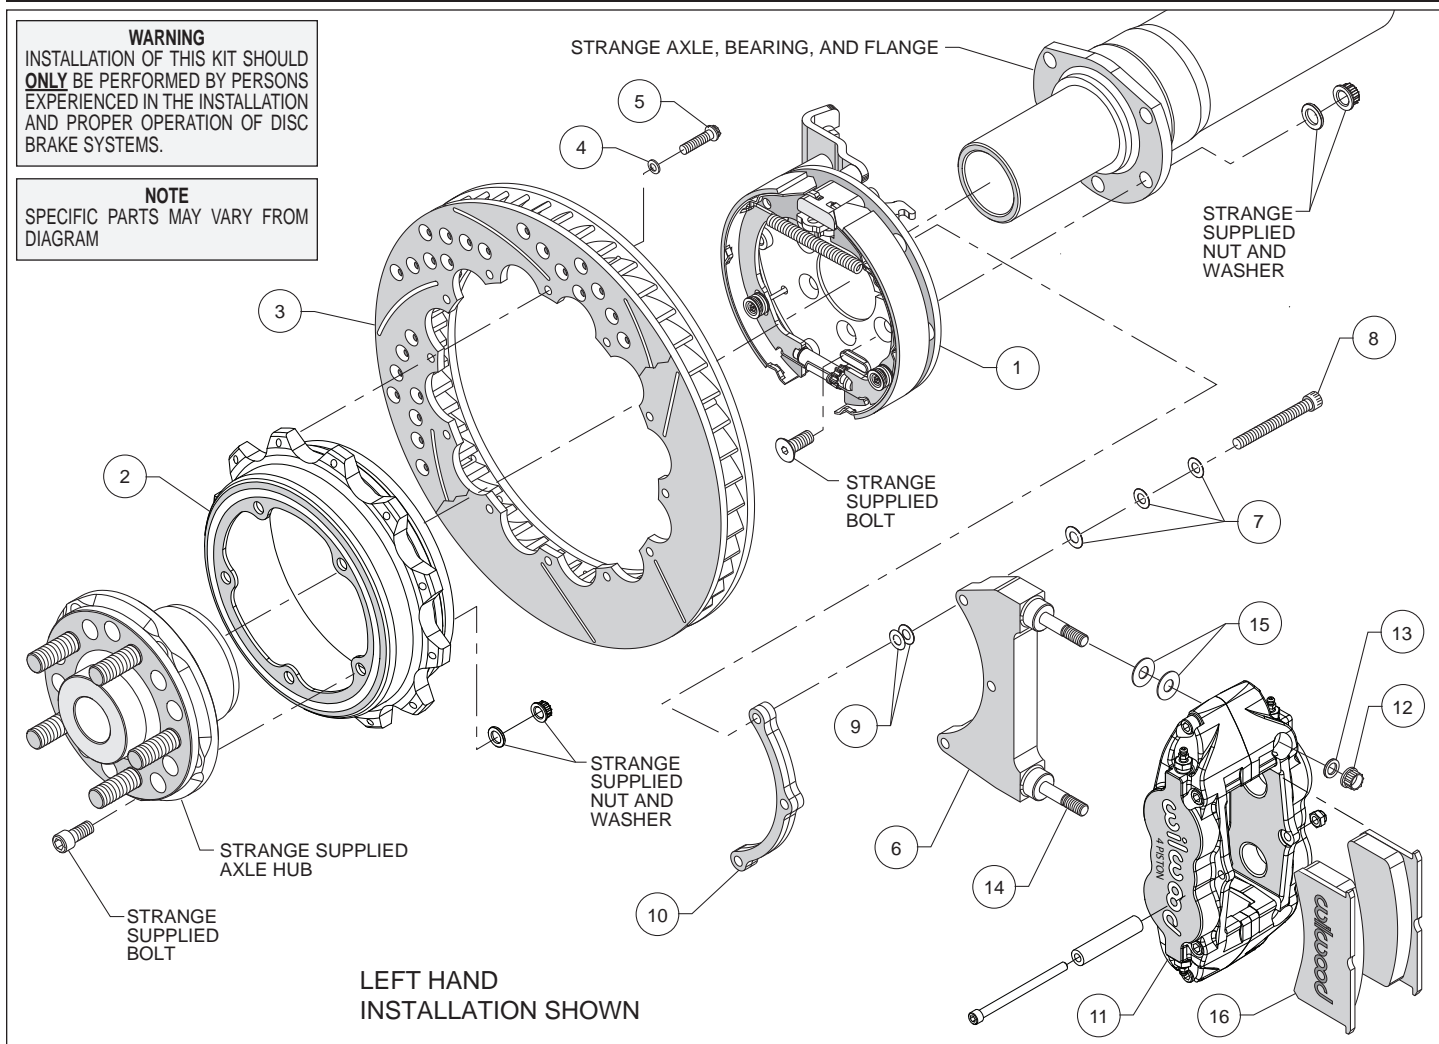

Figure 1. Typical Installation Configuration
Assembly Instructions (numbers in parenthesis refer to the parts list and Figure 1 on the preceding pages): **CAUTION:** All mounting bolts must fully engage threaded holes.
- Orient the bracket assembly (1) as shown in Figure 1 and slide it onto the axle housing flange. Ensure that the bracket assembly backing plate fits flush against the axle housing flange. Secure bracket assembly to the axle flange using bolts, washers, and lock nuts (all Strange supplied) as shown in Figure 1. Apply red *Loctite*® 271 to the bolt threads and torque to Strange specifications.
- **NOTE:** Please reference the caution statement at the beginning of the assembly instructions. The caliper mounting bracket assembly (6) should be installed first with clean, dry threads on the mounting bolts (8). Install the bracket using bolt (8), three flat washers (7), shim washer (9) and spacer (10), as shown in Figure 1. **NOTE:** End of bolt should not exceed inside face of insert. The bracket must tighten squarely against the back side of the bracket kit assembly (1). Inspect for interference from the axle flange. Use two thin shims (9) between the bracket (6) and spacer (10) during initial trial fitting. Later, after the caliper alignment has been checked, the mount bolts will be secured using red *Loctite*® 271.
- Orient the rotor (3) and the hat (2) as shown in Figure 1. Attach rotor to hat using bolts (5) and washers (4). Using an alternating sequence, apply red *Loctite*® 271 to the threads, and torque to 155 in-lbs.
- Orient the hat (2) and the axle hub (Strange supplied) as shown in Figure 1. Attach the hat to the axle hub using bolts, washers, and lock nuts (all Strange supplied) as shown in Figure 1. Apply red *Loctite*® 271 to the bolt threads and torque to Strange specifications.
- Slide the rotor/hat/hub assembly onto the axle as shown in Figure 1 and secure per Strange Engineering specifications.
- Lubricate the caliper mounting studs (14) with lightweight oil. Initially place two .035" thick shims (15) on each stud between the caliper and the bracket, as shown in Figure 1 and Photo 1. Mount the caliper (11) onto the bracket (6) using lock nuts (12) and washers (13), Figure 1. Temporarily tighten the lock nuts and view the rotor through the top opening of the caliper. The rotor should be centered in the caliper, Photo 2. If not, adjust by adding or subtracting shims (9) between the bracket (6) and the spacer (10). Always use the same amount of shims on each of the two mounting bolts. Once the caliper alignment is correct, remove the bracket mounting bolts one at a time, apply red *Loctite*® 271 to the threads, and torque to 180 in-lb.